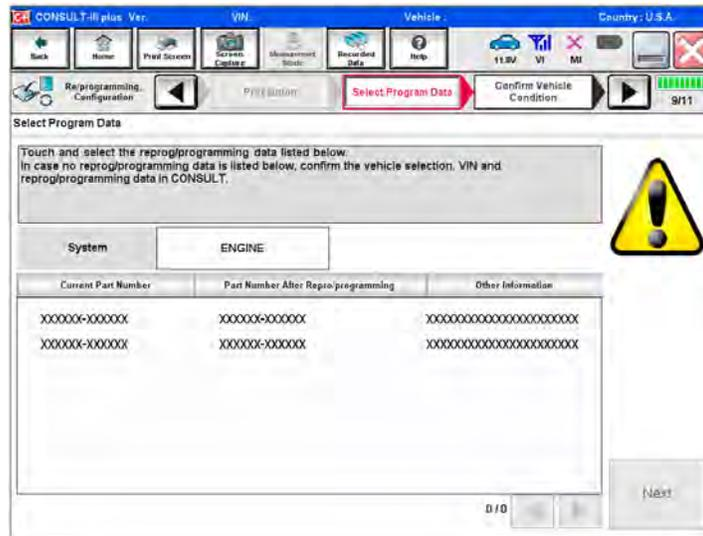

Figure 25
- If more than one new P/N is available, the screen in Figure 25 displays.